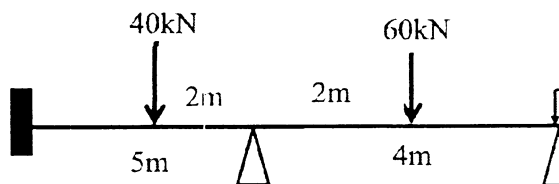

Fig. 4
- 7 Analyse and draw bending moment and twisting moment diagrams for a beam semi-circular in plan, and supported at three equally spaced hinges. The radius of the beam in plan is 3m, and it carries a UDL of 10kN/m. (20)
- 8 a) Derive expressions for shear force, bending moment and torsion of a beam with the shape of a quadrant of a circle in plan, fixed at one end and free at the other, with a point load at the free end. (10)
- b) Find out shape factor for an isosceles triangular section of base b and height h . (10)
- 9 Find the plastic moment capacity required for the beam shown in Fig. 4. Assume uniform section throughout. (20)